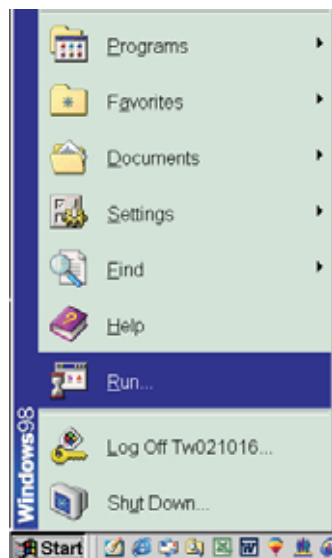

Fig.7
2. Click **Start**, choose Run at start menu of Windows 95/98 as shown in Fig. 7.